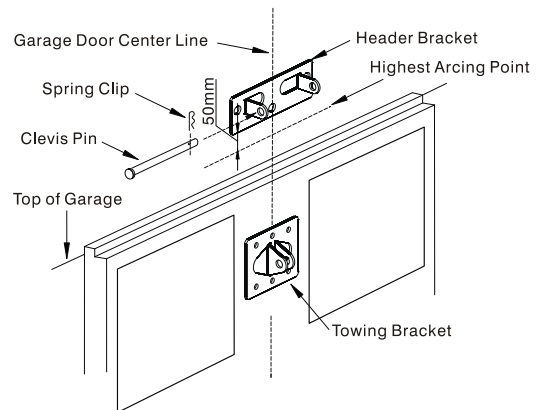

Fig. 5
- Determine the Garage Door Center Line and mark a vertical line on the header above the door. (Fig.5)
- Place the Header Bracket on the wall as depicted in Fig.5 and ensure that the bottom edge of the bracket is **no more than 50mm above the Highest Arcing Point**. Mark the location of the 2 outer most screw holes.
- Determine the Garage Door Center Line (Fig.5) and affix the Towing Bracket to a structural member of the garage door. The Towing Bracket should be mounted with reference to the top edge of the garage door in accordance with the appropriate diagram as depicted in Sec.1 Method A,B or C